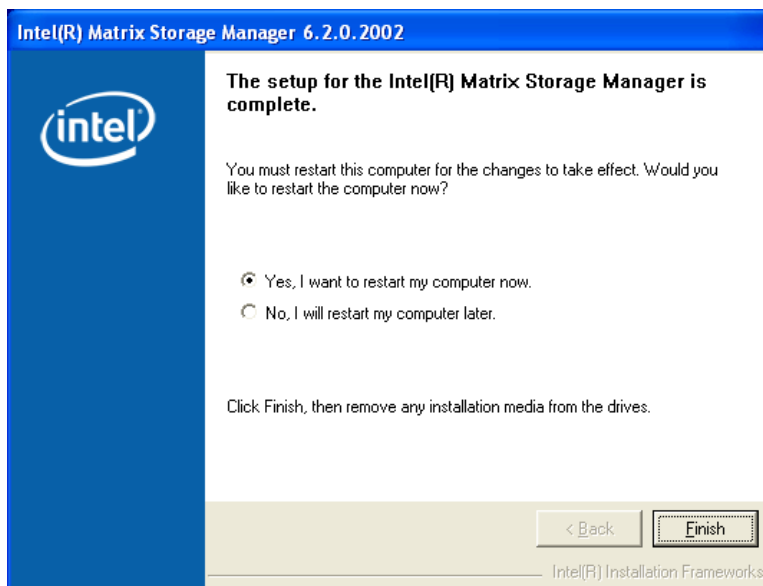

Figure 7-60: Matrix Storage Manager Setup Complete
Step 12: After the driver installation process is complete, a confirmation screen appears (Figure 7-60).